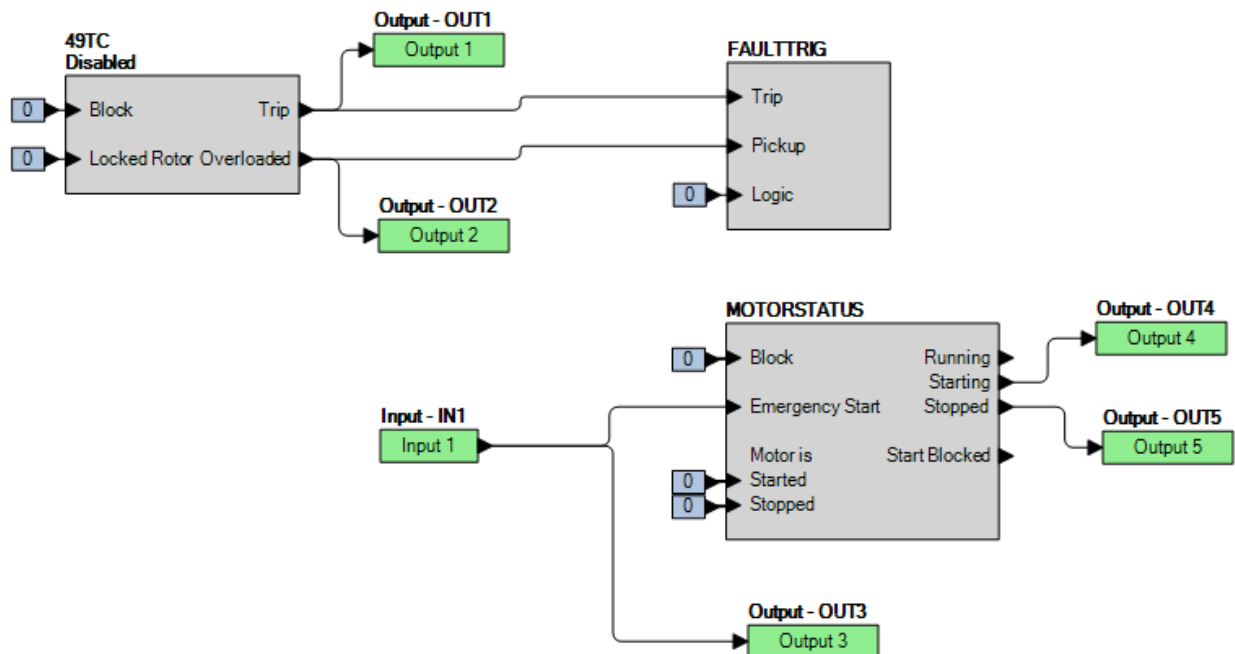

Figure 70-1. BESTlogicPlus Settings, Standard Curve
Step 2: Use BESTCOMSPPlus to configure the BESTlogicPlus Programmable Logic shown in Figure 70-1.
- Step 3: Prepare to monitor the 49TC function operation. Operation can be verified by monitoring OUT1 (Tripped) and OUT2 (Overloaded). See Figure 70-1.
- Step 4: Connect a three-phase 60 Hz current source to terminals D1 and D2 (IA), D3 and D4 (IB), and D5 and D6 (IC).
Step 17: Use BESTCOMSPi+ to configure the BESTlogicPi+ Programmable Logic shown in Figure 70-1.